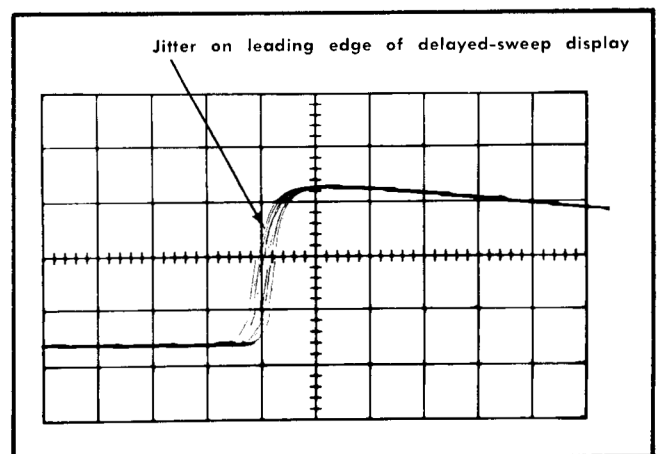

Fig. 5-17. Typical crt display showing acceptable delay-time jitter.
d. Check—Jitter on leading edge of marker not to exceed 0.5 division (1 part in 20,000); see Fig. 5-17. Ignore slow drift.
f. Check—Jitter on leading edge of marker not to exceed 0.5 division (1 part in 20,000); see Fig. 5-17. Ignore slow drift.